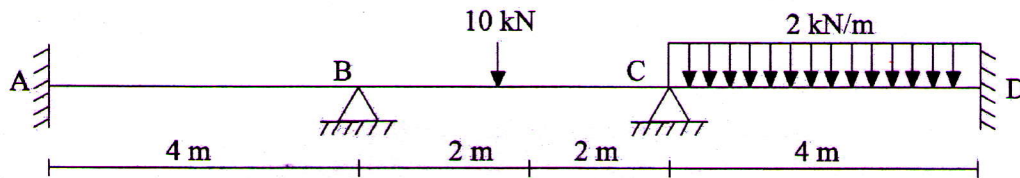

Fig 5
- 7 a) Describe the stiffness matrix of elements in global coordinates from element coordinates (5)
b) Analyse the beam shown in figure 5 using direct stiffness method and draw the BMD (15)